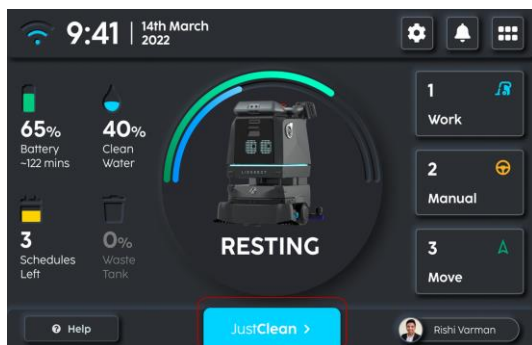

FIGURE 5-12
1. On the 'HOME' screen select 'JustClean™' (Fig. 5-12).